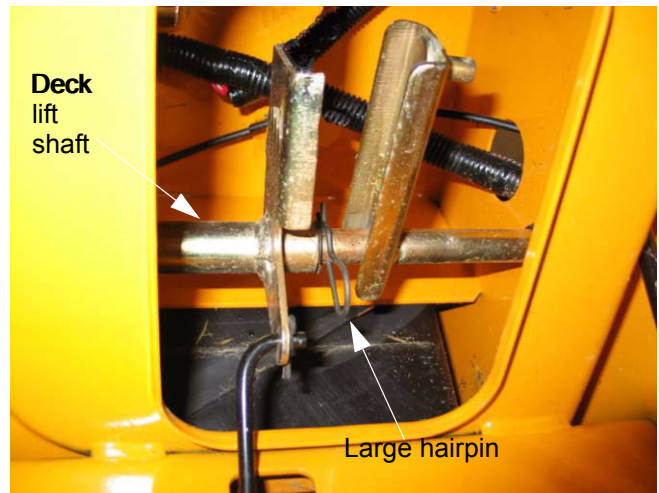

Figure 14.10
14.10. Remove the only large hairpin going through the center of the deck lift shaft on the left side of the shaft. See Figure 14.10.